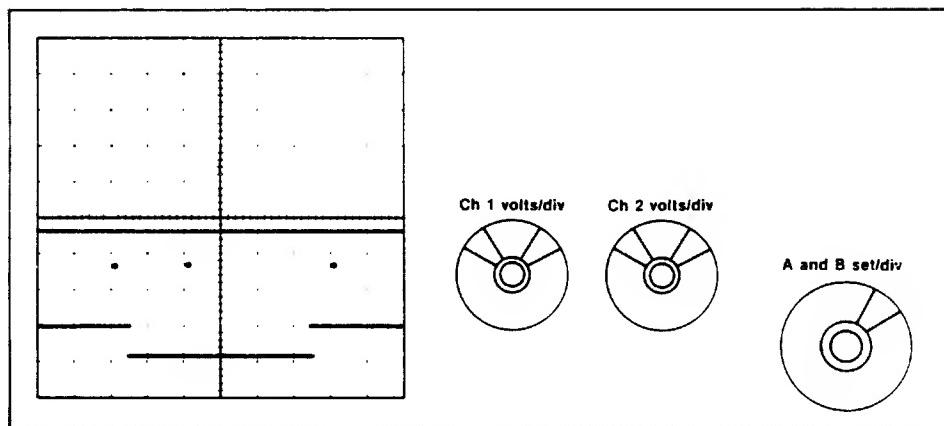

FIGURE 8-56. TRACK 0 SENSOR SIGNAL
- 8.3.5.7 Observe the square-wave signal on the oscilloscope for these tolerances (Figure 8-56):